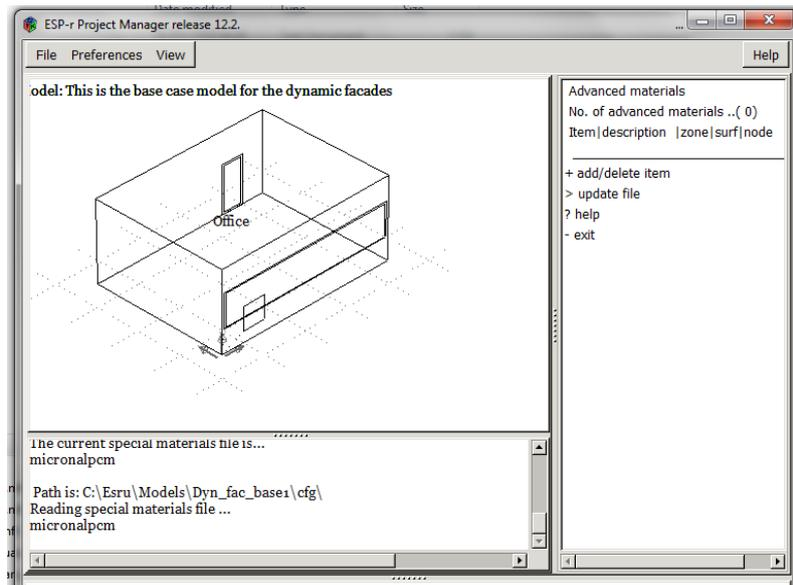

Figure 7
Step 7: The programme will then ask you if you wish to input the special component into you building, click >add/delete items. (figure 7)